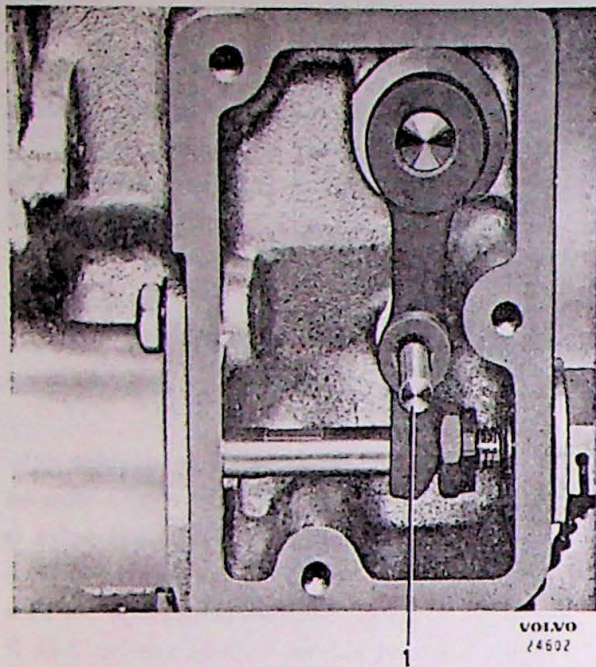

Fig. 3-39. Adjusting the control valve
2. Remove the cover over the control valve arm. Engage the overdrive (with the engine stopped and 4th speed engaged). If the control valve is correctly adjusted, it should be possible to push a 3/16" (4.75 mm) diameter pin through the hole in the arm and into the housing, see Fig. 3-39. If not, adjust until the correct position of the arm is obtained.